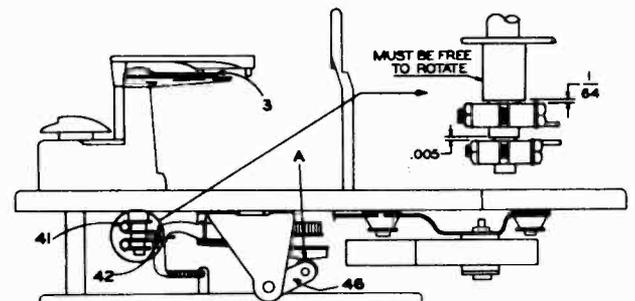

Fig. 5
1. Turn the Record Shelf (4) to the 12" position.
2. Trip the Reject control and rotate the Turntable clockwise until the push off Blade reaches its farthest forward position. At this point the cam follower will be at the highest point on the Main Cam ("A" of Fig. 5).
3. Loosen the lock bolts of (41) and (42).
5. At the same time, push the Push-off Blade forward as far as possible and push the Push-off Blade and Record Shelf Assembly downward tight against the Housing (6).
6. Position the Record Shelf finger and the Toggle Assembly (41) so the 12" finger of the Push-off
1. Turn the record Shelf (4) to the 12" position.
2. Trip the Reject control and rotate the Turntable until the Push-off Cam Follower reaches the highest point on the Main Cam ("A" of Fig. 5).
3. Loosen the Push-off Blade finger (42) clamp bolt.
4. Push the Push-off Blade forward as far as possible and hold the Push-off Blade and Record Shelf assembly downward tight against the housing (6).
5. Tighten the Push-off Blade finger clamp bolt (42), leaving  $\frac{1}{64}$ " vertical clearance between the shoulder of the Record Shelf shaft and the Push-off Blade finger (42).